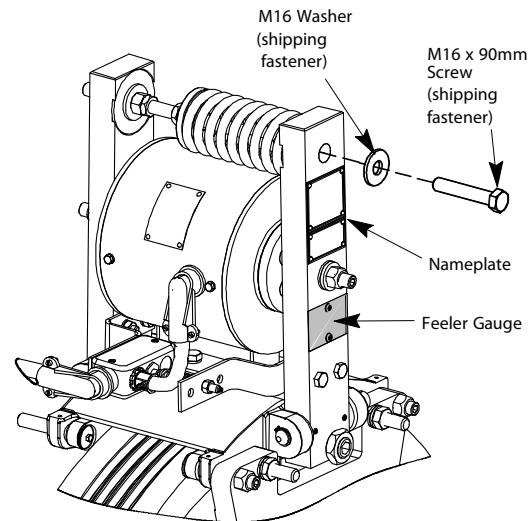

Figure 20 - Feeler Gauge Location
1. Remove the .010 inch feeler gauge from the nameplate side of the brake assembly. See Figure 20.